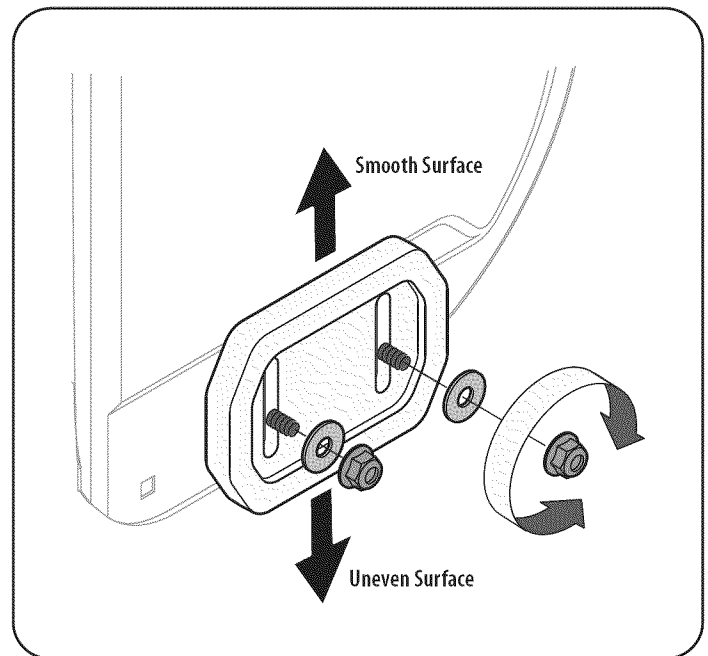

Figure 7
- For close snow removal on a smooth surface, raise skid shoes higher on the auger housing. Refer to Figure 7.
1. Loosen the four hex nuts (two on each side) and carriage bolts. Move skid shoes to desired position. See Figure 7.